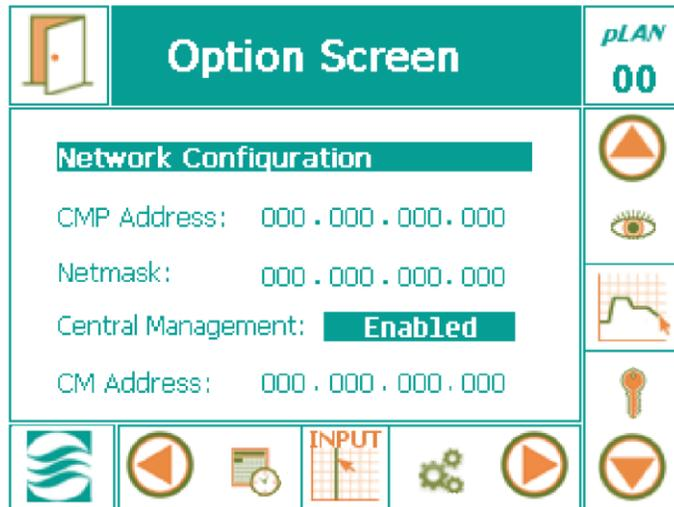

Figure 2-6 CMP6050 Network Configuration
1. From the status screen, tap the ID button  to access the network configuration (Figure 2-6).